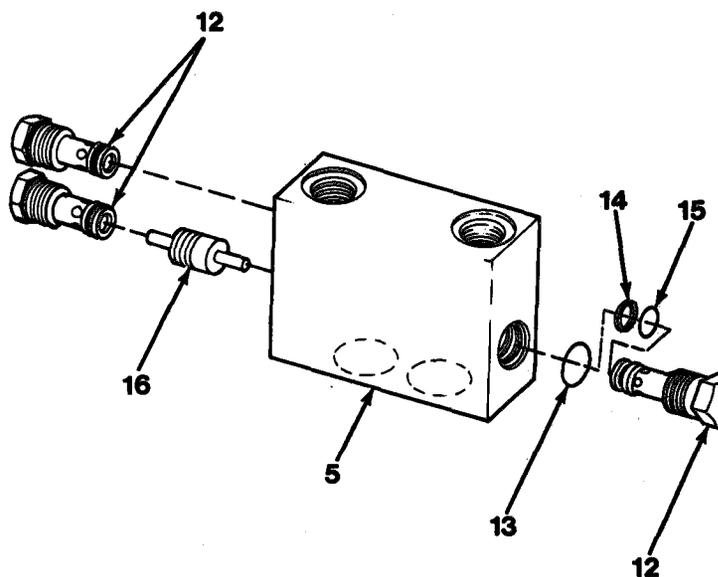

Figure 13-2
1. Remove three check valves (12) from steering valve (5, Figure 13-2).
2. Remove O-ring (13), back-up ring (14) and O-ring (15) from each check valve (12).
3. Remove piston (16) from steering valve (5.)
1. Install piston (16) into steering valve (5, Figure 13-2).
2. Install O-ring (15), back-up ring (14) and O-ring (13) on each check valve (12).
3. Install three check valves (12) into steering valve (5).